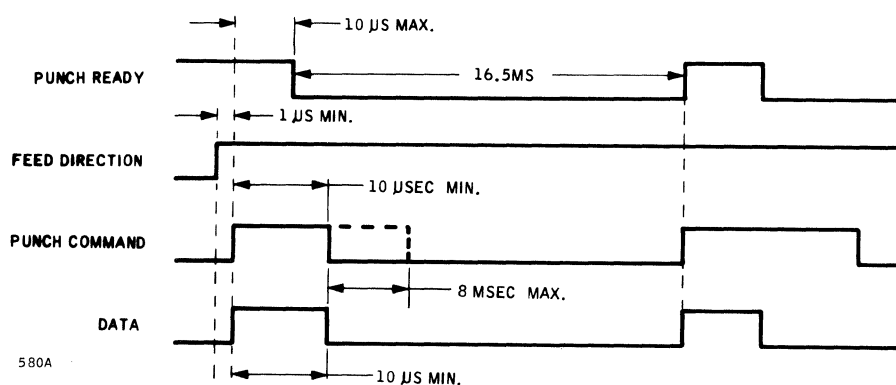
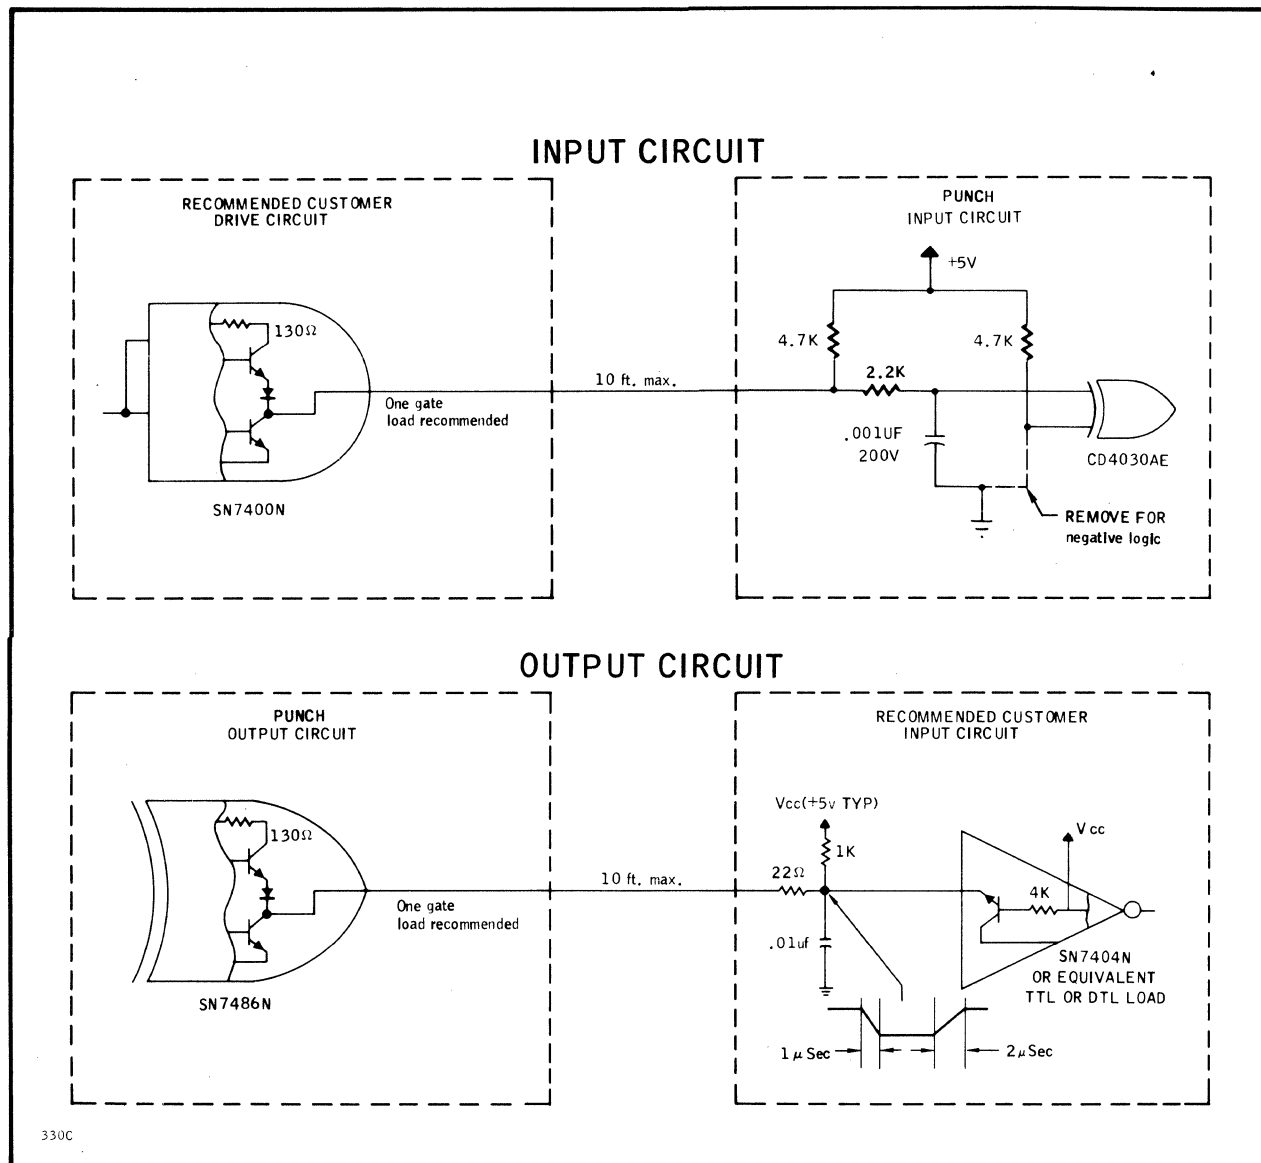

Figure 2-4. Punch Interface Timing Diagram
Figure 2-5. Recommended Punch Interface Circuits
The timing relationships for punch operation are shown in figure 2-4 and the recommended interface circuits in figure 2-5. FEED DIRECTION controls tape travel direction, logic 1 for forward and logic 0 for reverse. Apply a PUNCH COMMAND when PUNCH READY is at logic 1 and 1 microsecond or more after FEED DIRECTION is set to logic 1.
7. Apply control and data signals from external equipment. See figure 2-4 for timing relationships.